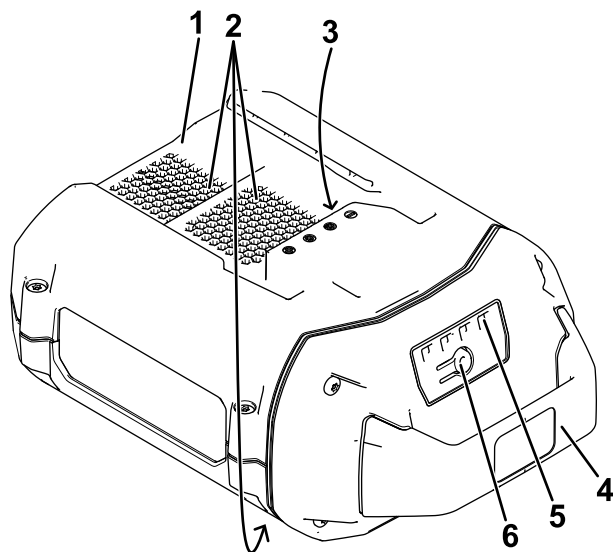

Figure 13
2. Line up the cavity in the battery pack (Figure 13) with the tongue on the charger.